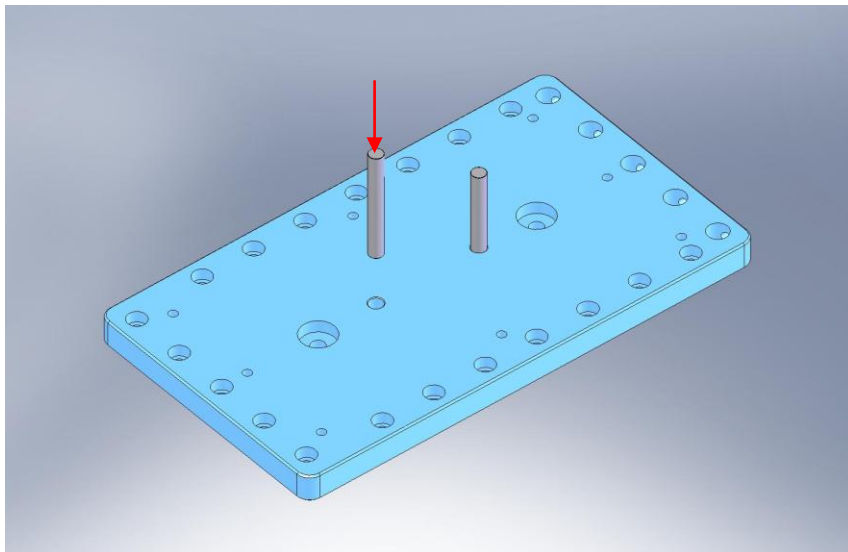

Figure 3.1. Press dowel pins into Small Panel Outer Wall. Note that counterbores all face same direction as pins.
3.0.1 Assemble (6) Small Panel Outer Wall Assemblies (D071427)
- Press (2) 1/2"x4.0" dowel pins into each **Small Panel Outer Wall** (D071059), as shown in Figure 3.1. (If necessary, first heat **Wall** and cool pins, to reduce interference.)